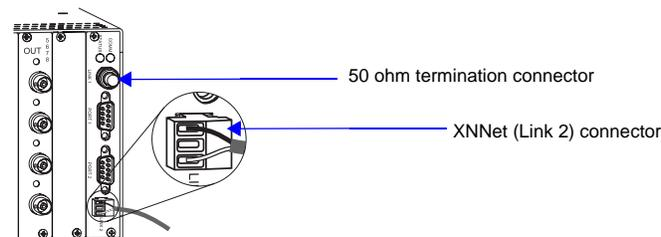

FIG. 11 Insert wires into XNNet connector (Link 2)
3. Insert XNNet link cable wires according to Fig. 11 (either wire can be inserted in either outside slot).